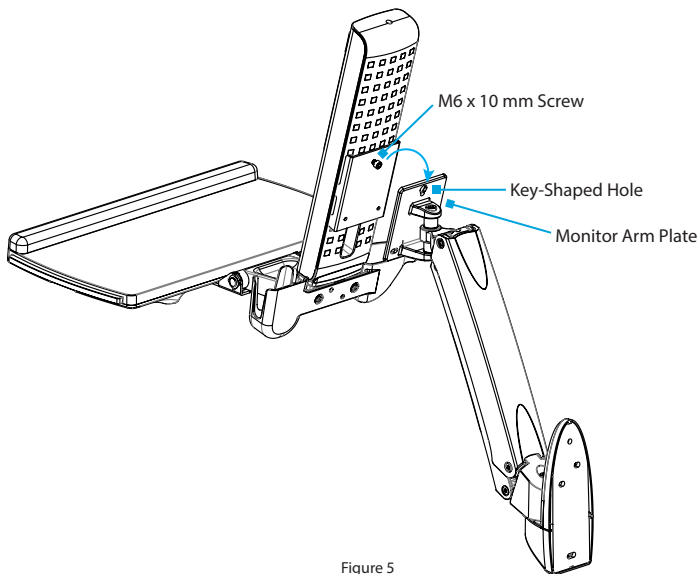

Figure 5
2. Hook the **M6 x 10 mm Screw**, attached to the **Column**, into the **Key-Shaped Hole**, located at the top of the **Plate** on the **Monitor Arm**. (Figure 5)